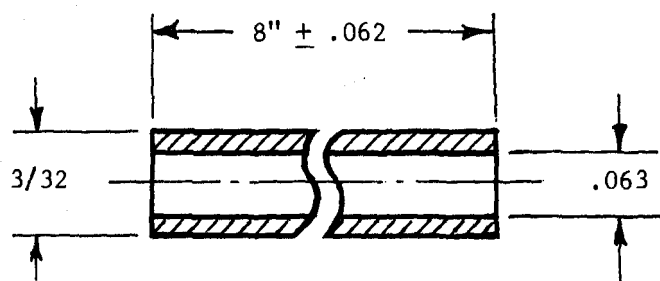

Figure 2-8. Fabrication Instructions for Evacuation Tube.
g. Evacuation Tube. Replace tube if corroded, distorted, or damaged. Manufacture tube from copper tube (item 8, table 1-4) in accordance with figure 2-8.